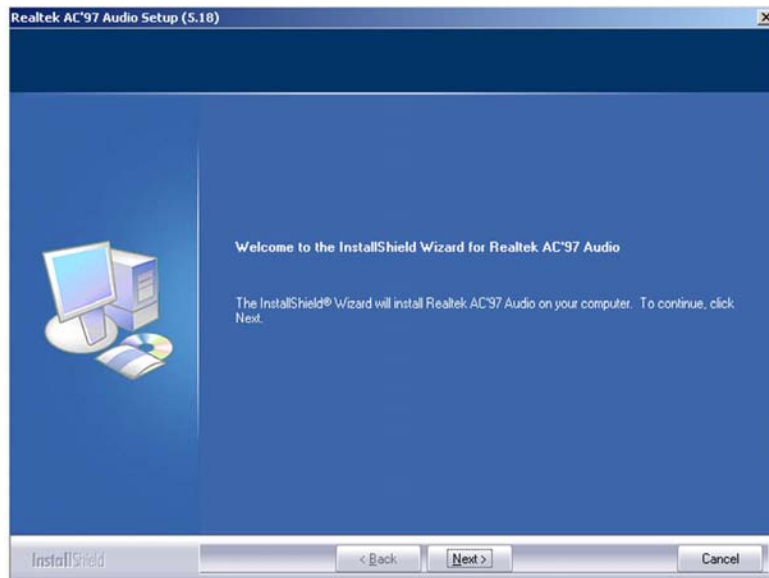
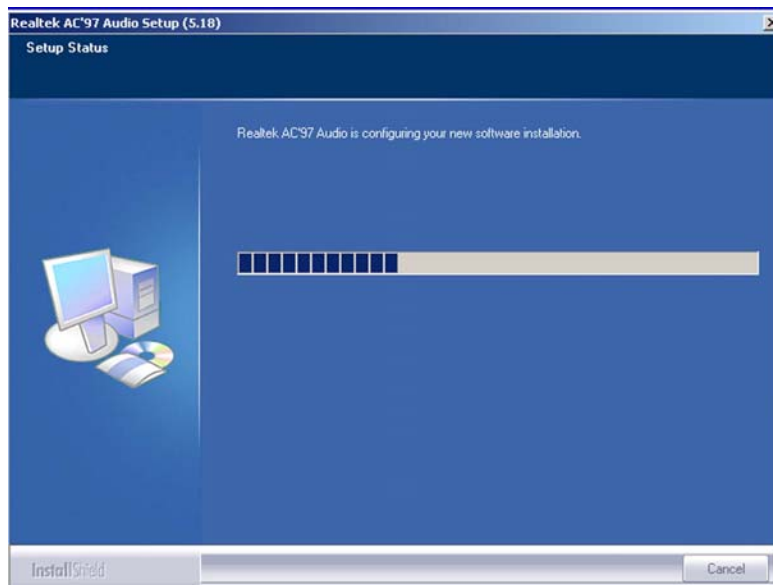

Figure 6-8: Audio Driver Welcome Screen
Figure 6-9: Audio Driver Software Configuration
Step 4: After install shield is prepared, the welcome screen shown in **Figure 6-8** appears. To continue the installation process, click the "NEXT" button. The install shield starts to configure the new software as shown in **Figure 6-9**.